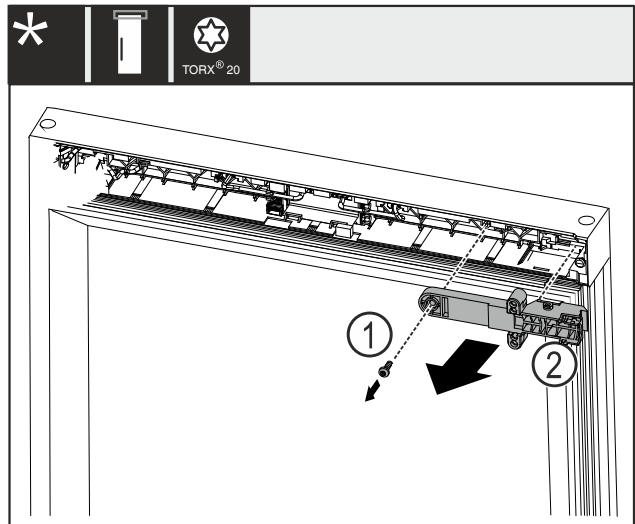

Fig. 11
- Remove the screw Fig. 11 (1).
- Remove the lock retainer Fig. 11 (2).